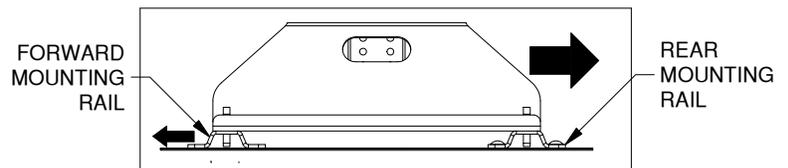

Figure D4: Side view of RV base and mounting rails.
**IMPORTANT:** Before drilling forward mounting holes pull the RV base towards the rear of the truck and push the forward rail towards the cab of the truck to correctly space the mounting rails, see figure D4.